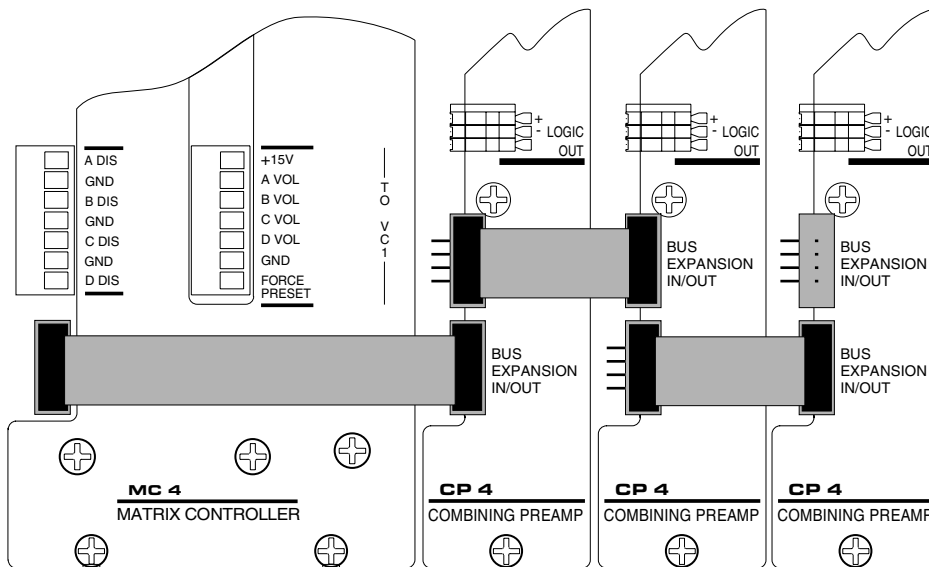
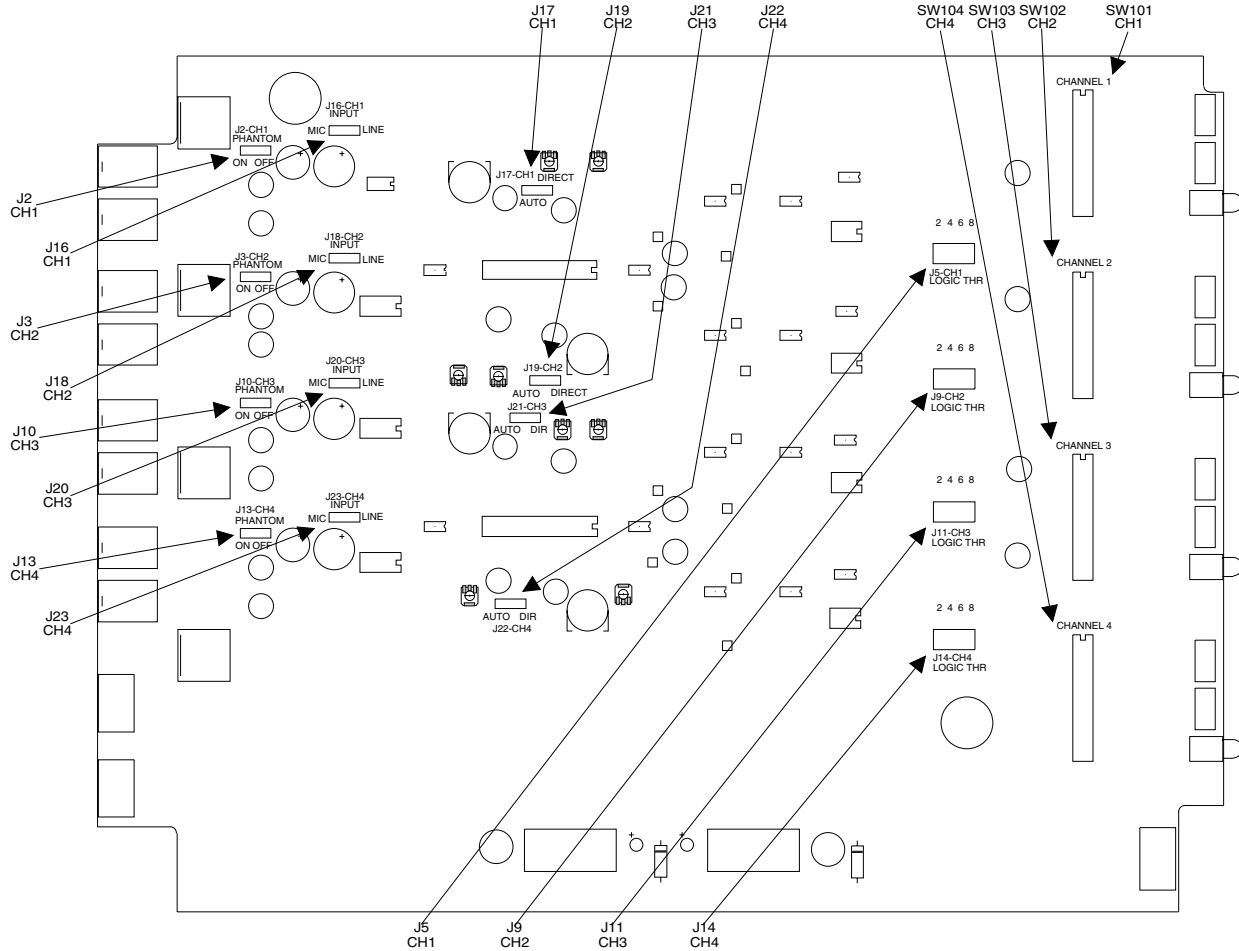

Figure 4 - Bus Expansion Cabling
Figure 5 - CP4 Jumper Locations
- 1) Select the proper jumper settings for the application. Figure 4 shows the locations of all the jumpers and Figure 5 illustrates the factory settings of all the jumperable options, along with the jumper positions for each option. A short description of each jumperable option follows: